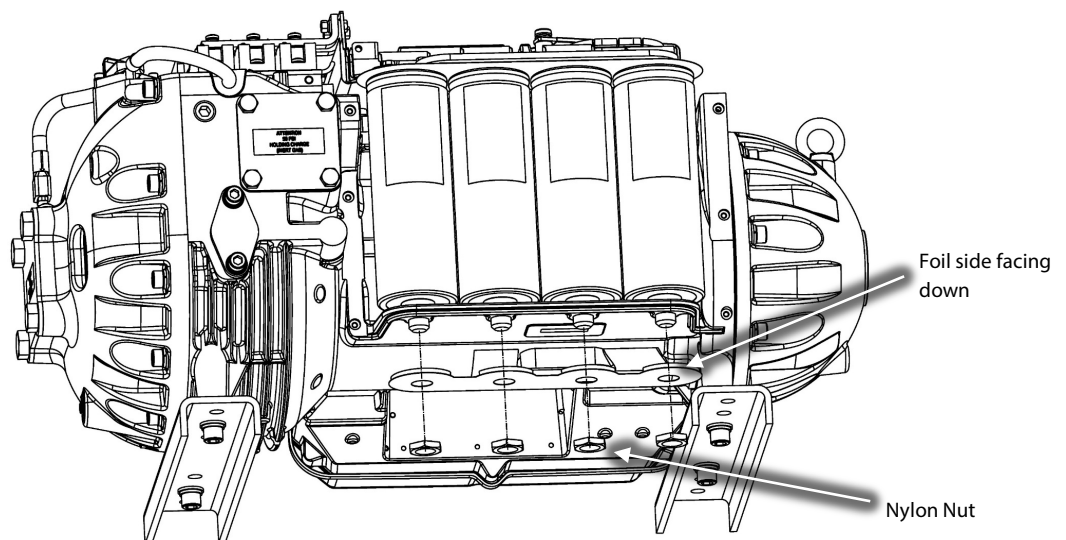

Figure 12 – Capacitor Nut Removal
24. Remove the nylon nuts at the base of the DC capacitor assembly, under the main compressor housing. Refer to Figure 12 (Capacitor Nut Removal).
22. Place the capacitor membrane foil side down, underneath the main compressor housing and then reinstall the nylon nuts to the base of the DC capacitor assembly, under the main compressor housing and torque to 7 Nm (62 in.lb.). Refer to Figure 12 (Capacitor Nut Removal).